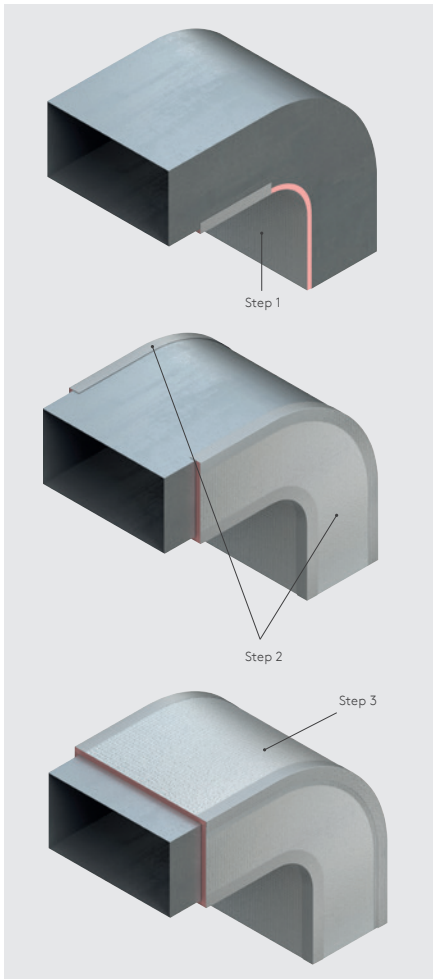

Figure 11: Installation to radius duct components
- Insulation is applied to the ductwork with aluminium tape, usually starting from the bottom and finishing on the top as shown in Figure 11.